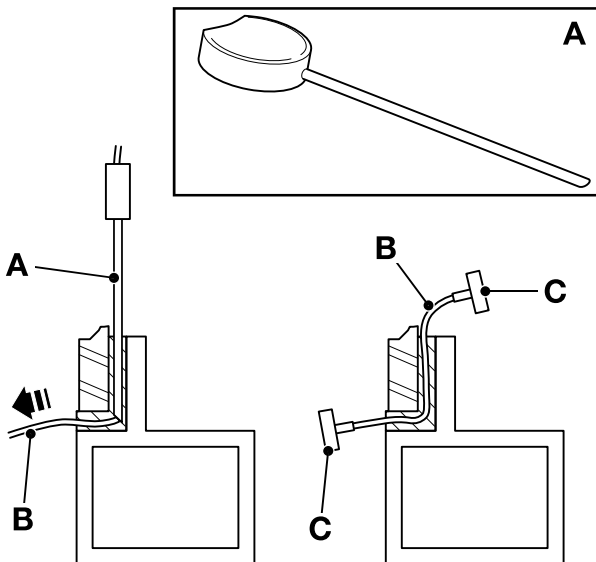

Fig 5. Braided Cutting Wire and Handles
- b Braided Cutting Wire and Handles.** ⇒ Fig 5. \(□ B-43\). This method uses a 3-core wire, a wire starter tube and two handles.